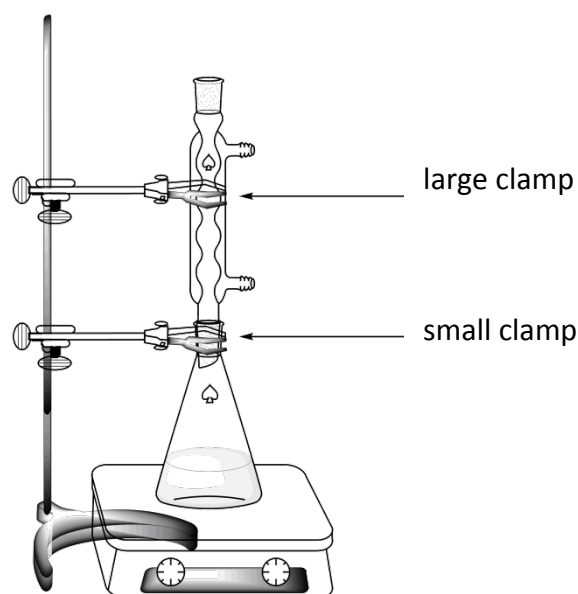

Figure 1. Setup for heating the reaction mixture under reflux
- Attach** the reflux condenser by loosening the large clamp and adjusting the ground joints (see Figure 1). **Raise** your HELP card. A lab assistant will come to turn on the water and set the hotplate.
2. **Perform** the recrystallization of the crude product contained in the 50 mL ground-joint Erlenmeyer flask by using an appropriate amount of this water/ethanol mixture, using the same setup as for the reflux heating (see Figure 1). **Raise** your HELP card. A lab assistant will come to turn on the water and set the hotplate. **Add** more solvent by the top of the condenser if needed.